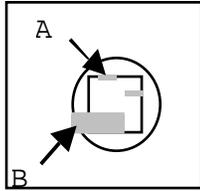

Figure 4. Power Coaxial connector solder tab locations.
- [] Using the remaining 2" wire, solder one end of the 2" wire to tab A of the coaxial power connector (see Figure 4).
- [] Solder the end of the 7" wire from the on/off switch to Tab B of the coaxial connector (see Figure 4).